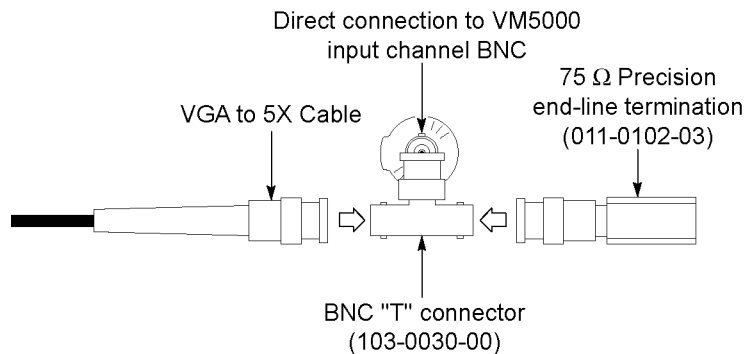

Figure 2-20: Connecting the VGA to 5X cable to the input channel
1. Install the included 75 Ω terminations between the end of the BNC cables and the instrument input Channels 1 through 3, using the included BNC T-connectors. See Figure 2-20. To achieve accurate measurements, it is important to attach the T-connectors directly to the input channel BNCs.